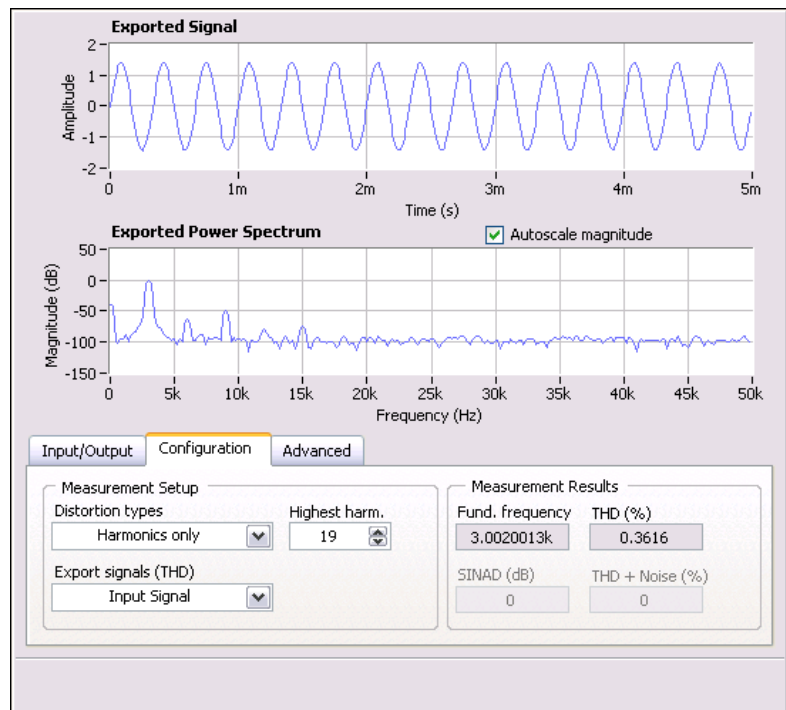

Figure 2-3. Distortion Step Setup Tab
1. Double-click the Distortion step in the **Project View**. LabVIEW SignalExpress displays the **Step Setup** tab for the Distortion step, as shown in Figure 2-3.